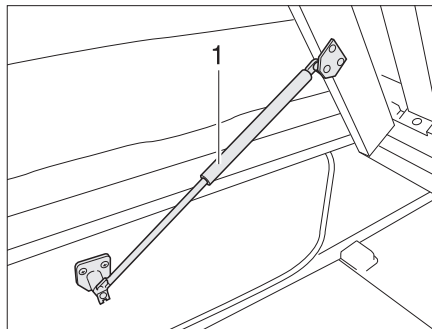

Fig. 59 Fixed bed
- Lift slatted frame. The gas-pressure springs (Fig. 59,1) hold the slatted frame open.